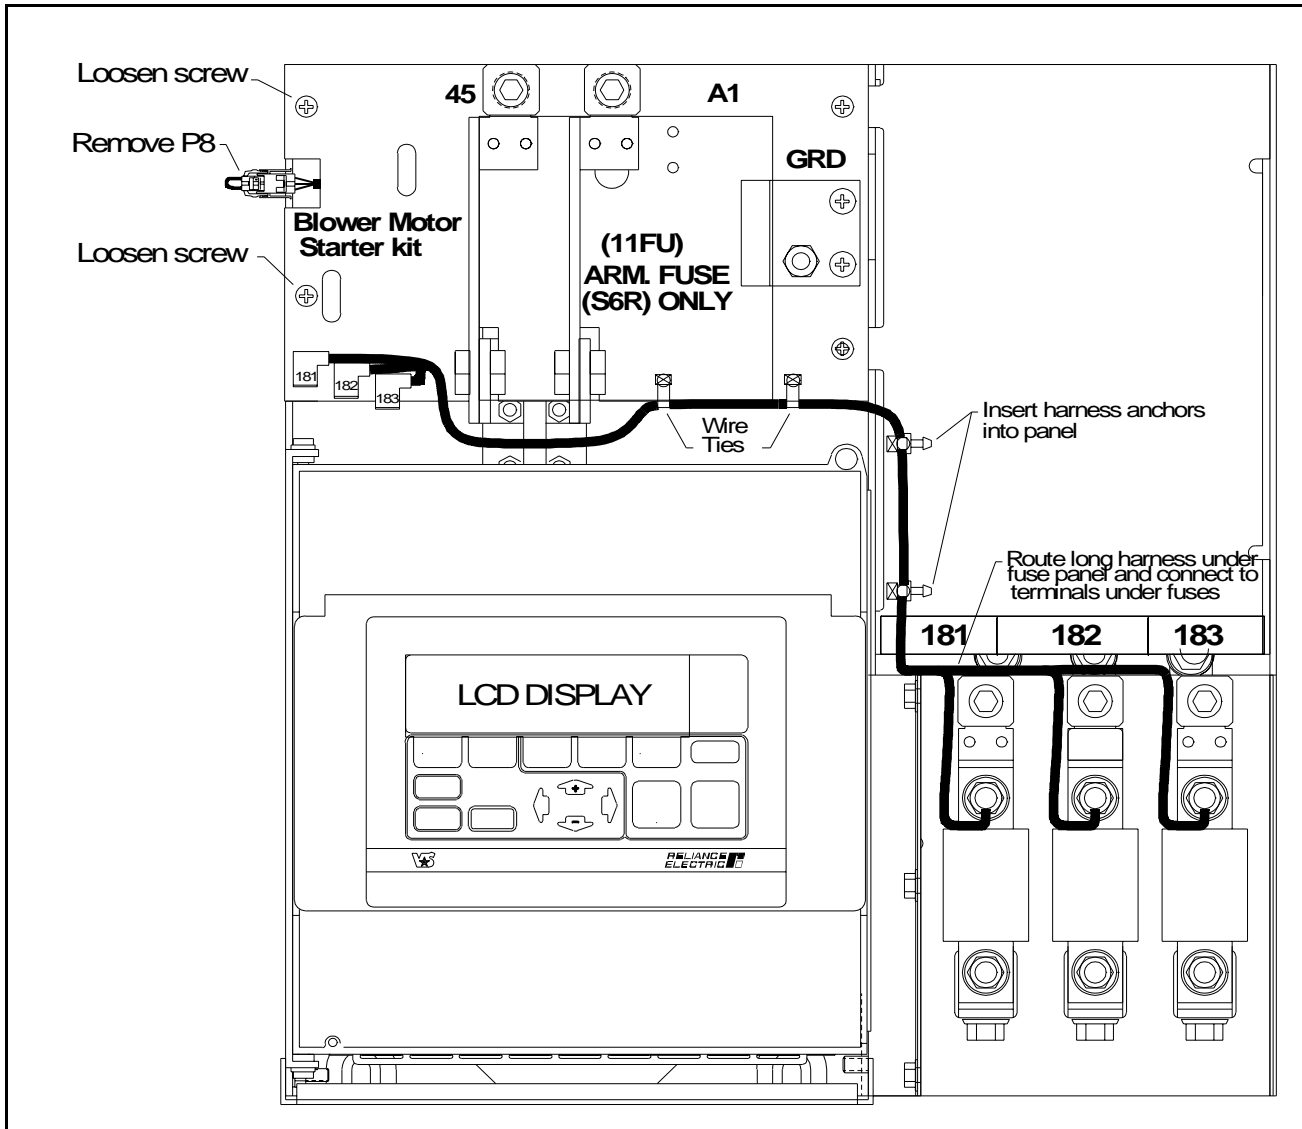

Figure 3 – Mounting the Starter on the Drive Line-Fuse Panel (40 HP to 75 HP @ 230 VAC / 75 HP to 150 HP @ 460 VAC)
- d. Secure the wire harness to the drive chassis with the wire ties as illustrated in figure 3 or 4.